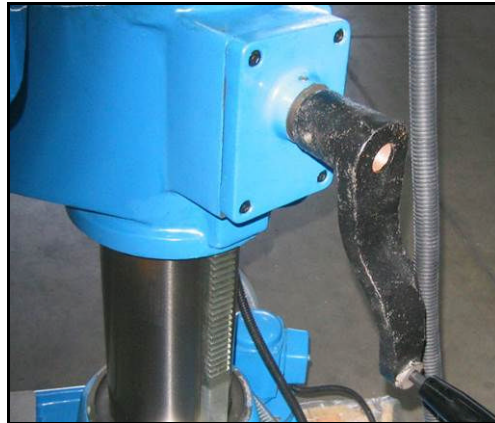

Figure 20 – Adjusting the table height.
2. Fetch handle (E) and turn it clockwise for raising the table, or anticlockwise for lowering it, until reaching the desired height (figure 20).